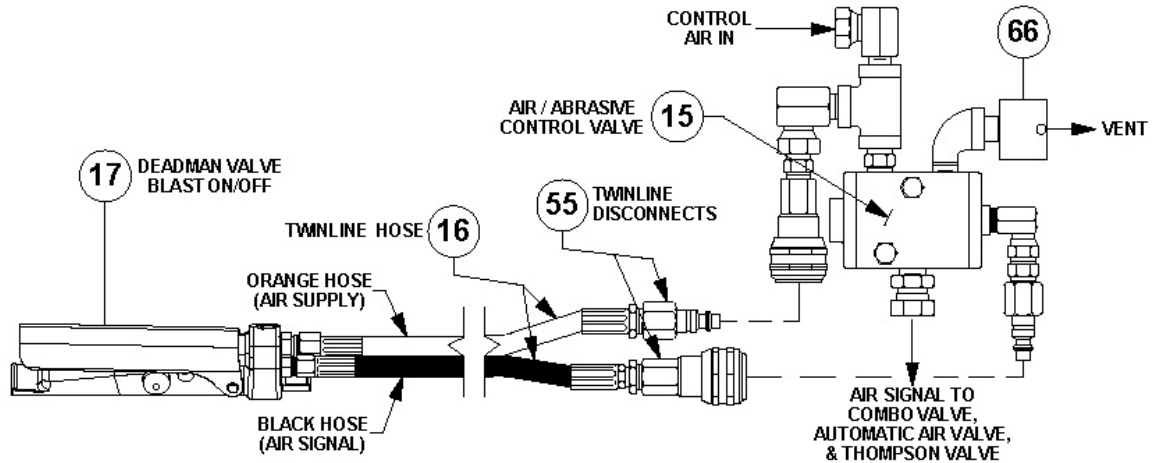

Figure 5.5 – Pneumatic Blast Control System
5.12.1. Pneumatic Deadman System: When the pneumatic deadman lever (#17) is pressed down air supply from the orange hose of the twinline hose (#16) flows into the black hose. Air flows through the black hose to the signal port of the control valve (#15) causing it to open and send air signals to the Combo Valve® (#8), the automatic air valve (#12), and the Thompson Valve® (#14). When the deadman lever is released the air signal is cut off and the remaining air vents from the breather vent (#66). See Figure 5.5 and the drawings in Section 9.1.